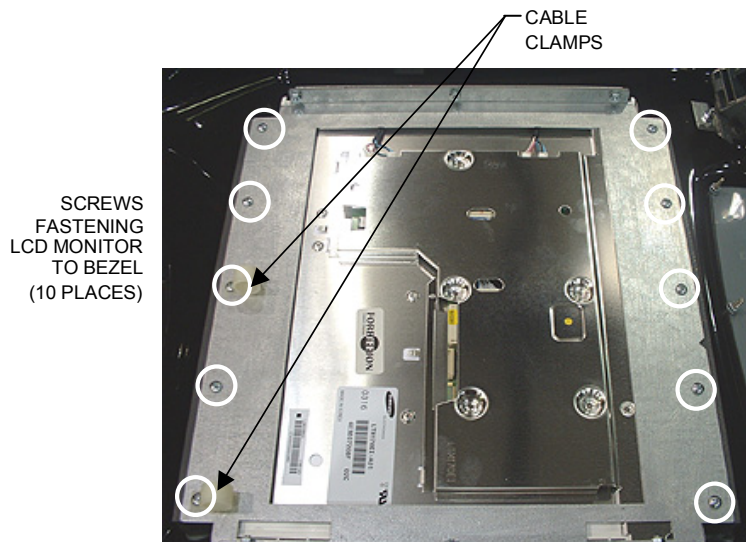
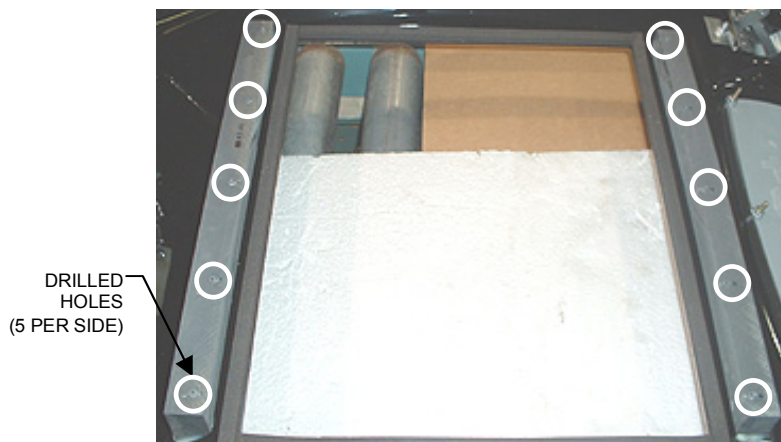

FIGURE 14 - FORCE FUSION - UNDER SIDE OF MONITOR
FIGURE 15 - FORCE FUSION - PLASTIC MOUNTING PIECES ON BEZEL
6. Place the bezel assembly upside-down on a flat surface and remove the 10 screws fastening the LCD monitor to the bezel (remember which 2 screws also fasten cable clamps), then remove the monitor from the bezel. See Figure 14.
10. Place the new LCD monitor in the bezel (make sure it is not upside-down), lining up the screw holes on the face of the mounting frame with the larger, drilled holes on the plastic mounting pieces (see Figure 15), and fasten it with the 10 screws. Also replace the cable clamps in the appropriate screw holes (See Figure 14).